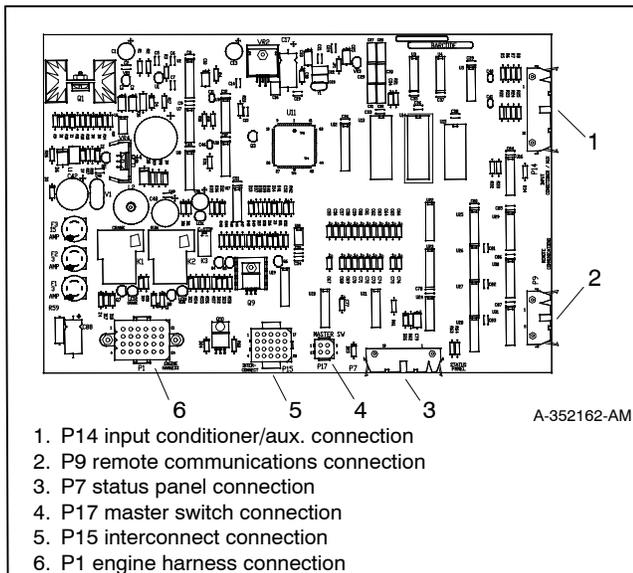

Figure 7 Main Logic Circuit Board A-352162
4.3 Main logic circuit board A-352162. See Figure 7.
6.3 Main logic circuit board A-352162. See Figure 7.